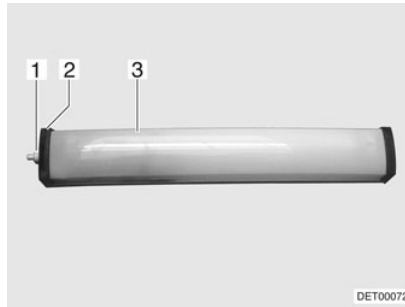

Fig. 96 Room lamp
- Unscrew the cap (Fig. 96,1).
- Remove cover (Fig. 96,2).
- Press the light covering (Fig. 96,3) lightly together and remove it.